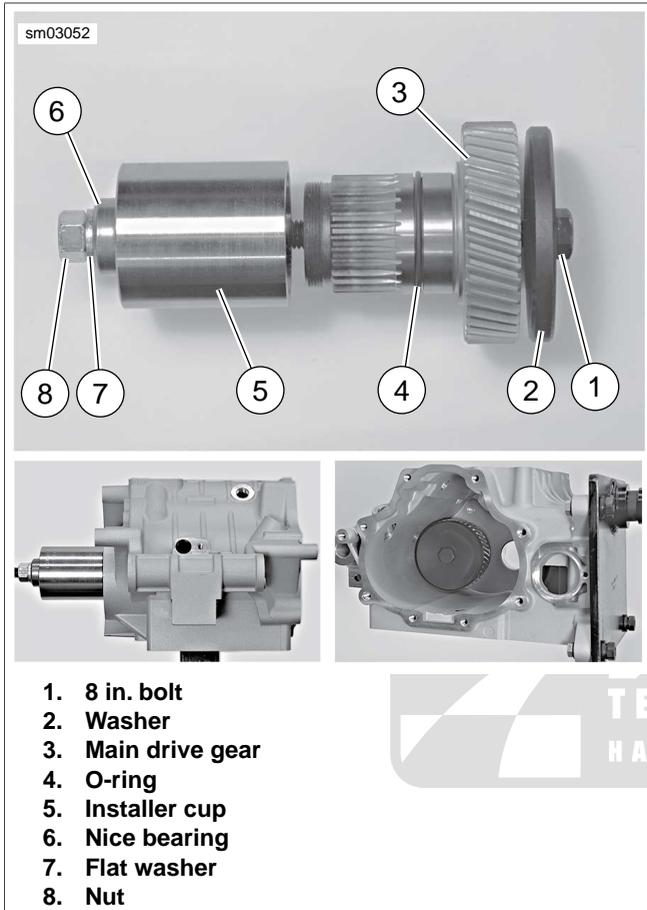

Figure 7-47. Installing Main Drive Gear (Typical)
See Figure 7-47. Make sure **new** o-ring (4) is installed onto main drive gear (3). Lubricate o-ring with clean engine oil before installing drive gear into transmission case.
- See Figure 7-47. Apply a light coat of graphite lubricant to the threads of 8 IN. BOLT (Part No. HD-35316-4A) (1) and insert through WASHER (Part No. HD-35316-7) (2) and main drive gear (3). Insert assembly into transmission case, through main drive gear bearing.
- At outside of case, place INSTALLER CUP (Part No. HD-35316-12) (5), NICE BEARING (6), FLAT WASHER (7) and NUT (8) over end of bolt.